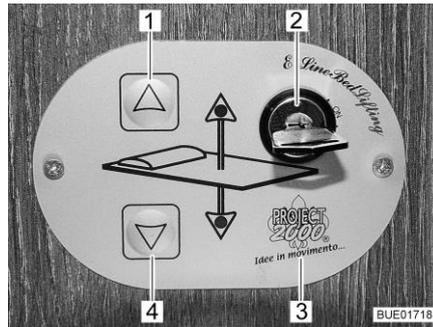
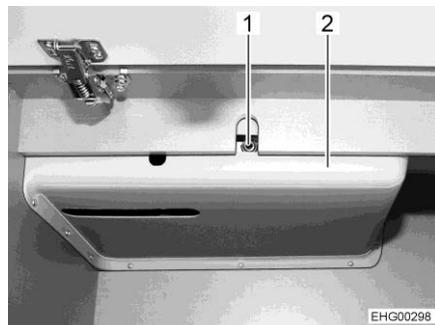

Fig. 143 Control unit
Fig. 147 Access to drive
The pull-down bed is raised or lowered using the buttons (Fig. 143,1 and 4) on the control unit (Fig. 143,3). The control unit is protected against unauthorized use with the key switch (Fig. 143,2).
- Turn the key in the key switch (Fig. 143,2) through 90° clockwise. The control unit (Fig. 143,3) is activated.
- Press the arrow key (Fig. 143,4) and keep it pressed until the pull-down bed has moved down into the desired position.
- Press the arrow key (Fig. 143,1) and keep it pressed until the pull-down bed has moved down into the final upper position.
If it is no longer possible to move the pull-down bed with the arrow keys (Fig. 143,1 and 4), first of all check the fuse behind the panelling (Fig. 147,2) (see section 9.12.1). If the fuse is okay and it is still not possible to move the pull-down bed, operate the pull-down bed manually.
- Insert the crank provided or an Allen wrench into the accommodation on the motor (Fig. 147,1).